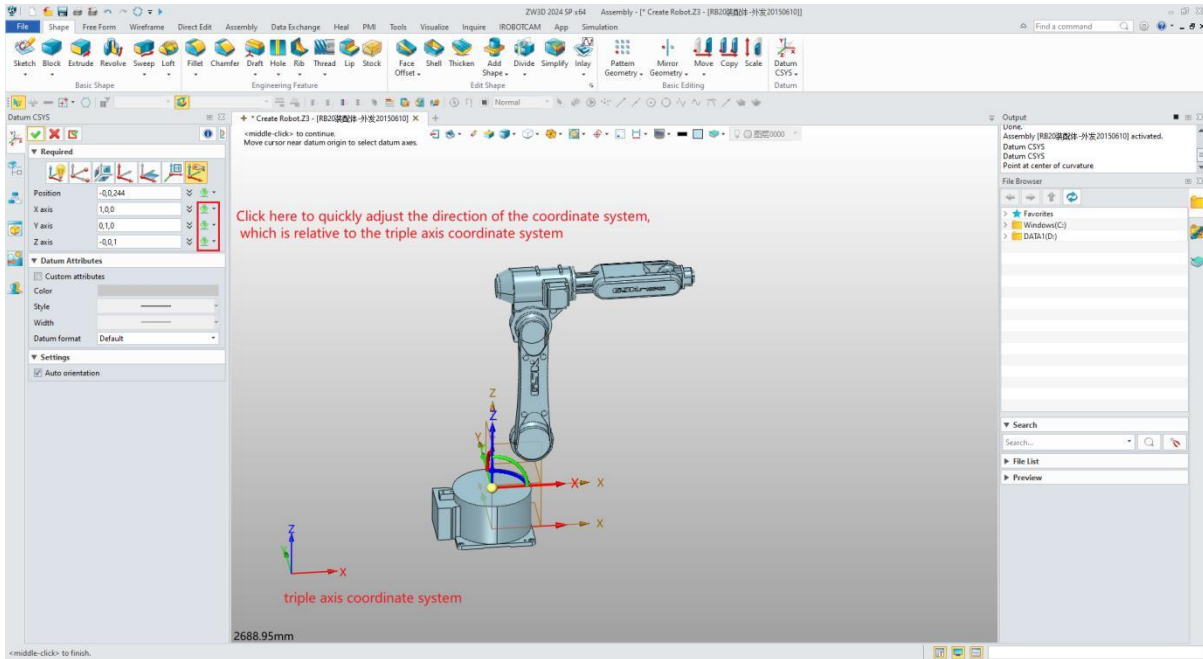

Figure 8-8: Coordinate system construction
- Place and adjust the coordinate systems correctly, except for base and flange coordinates, which need only their Z-axis aligned. (Figure 8-8)